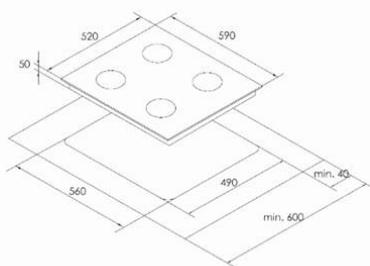

Figure 2
- ❖ The hob has been designed to be fitted into a kitchen unit. It can be fitted either under a worktop or in a taller cupboard unit at eye level. Cut out an opening in the kitchen unit as shown in. (See Figure 2 and Figure 3)